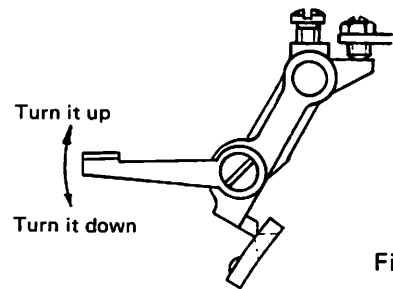

Fig. 30
- B. Adjust the thread release timing by means of the tension release lever according to the following chart (See also Fig. 30).